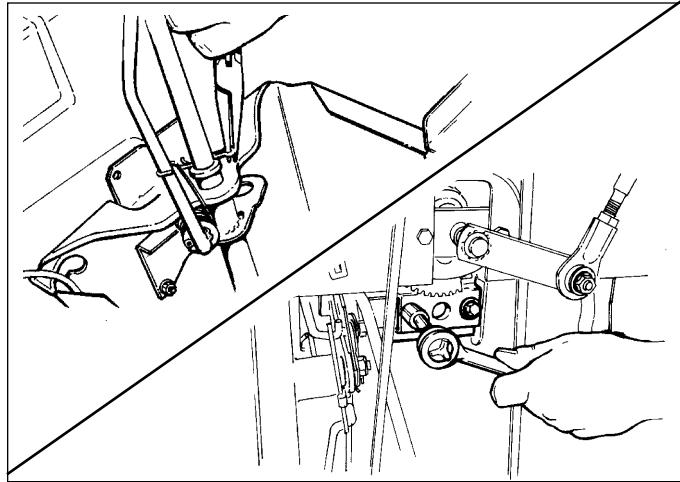

Figure B-13. Shift Lever Assembly Removal
2. From the underside of the unit, remove the two steering gear adjustment locknuts (Figure B-13) that secure the steering mounting plate and lower nylon bushing to the frame. Removal of the locknuts allows the two mating carriage bolts to be removed from the inside, near the base of the shift lever assembly.